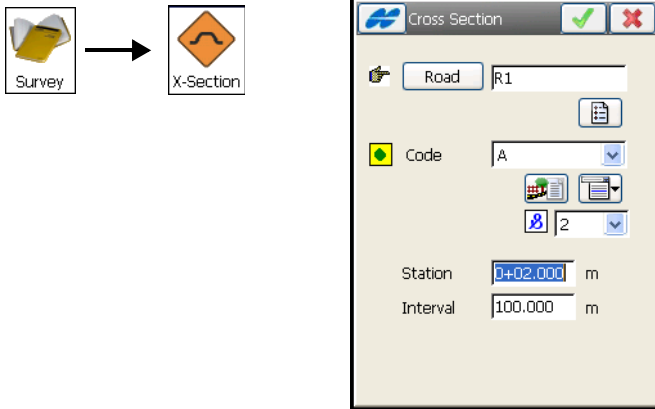

Figure 8-28. Cross Section
2. On the ***Cross Section*** screen, set the parameters of the station where the cross-section survey is to be performed: the Road/Horizontal alignment/Horizontal and Vertical alignments name, the code and attributes of the center line, the station where the cross section is surveyed and the increment of distance towards the next station (Figure 8-28). Tap  .